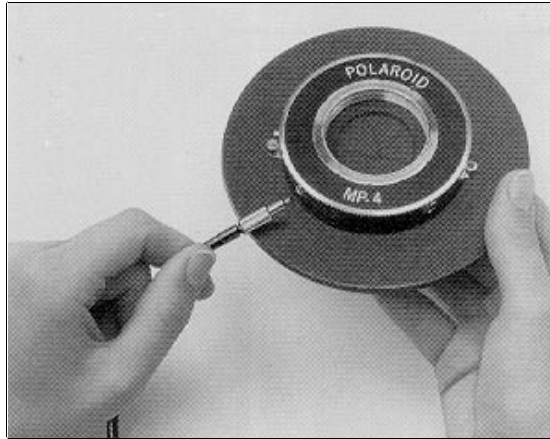

Figure 2-17. Cable Release in Shutter Socket
- a. Screw the exposure cable release into its socket (k, figure 2-17).